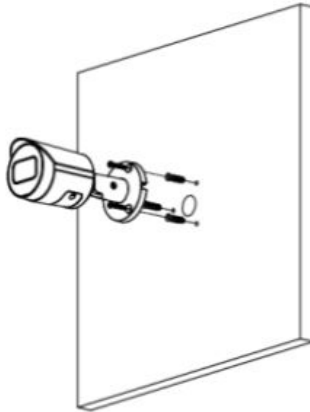

Figure 2-2
**Step 2** Install the expansion bolts if necessary. Thread the base screws through the mounting holes in the base of the camera. See Figure 2-2.